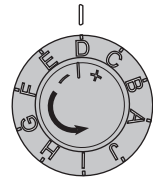

Figure 15
- b. If the fine adjustments are “maxed” out before the central tube is slit, then return the fine adjustment to its minimum setting (fully counterclockwise) and turn the coarse adjustment wheel clockwise (increasing blade depth) to the next 0.2 mm increment (Figure 15).